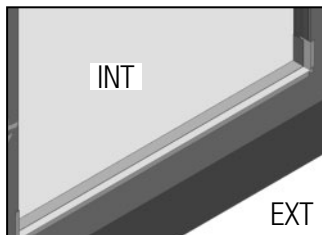

FIG. 7
- F) Flashing tape must cover the entire sill plate. If needed, apply an additional flashing piece over the first one (start from the exterior and work toward the interior). Maintain a minimum 1" overlap. (Fig. 7)